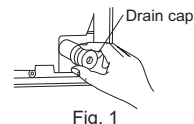

Fig. 1
- The drain hose should point downward for easy drain flow. (Fig. 1)
- Cut the copper pipe correctly with pipe cutter. (Fig. 1, 2)
- Put the refrigerant piping and the drain hose together, then firmly apply felt tape (5) from the end. Felt tape (5) overlap width should be 1/3 the tape width. Use a bandage stopper at the end of felt tape (5).
- Pull out the drain cap at the rear right of the indoor unit. (Fig. 1)